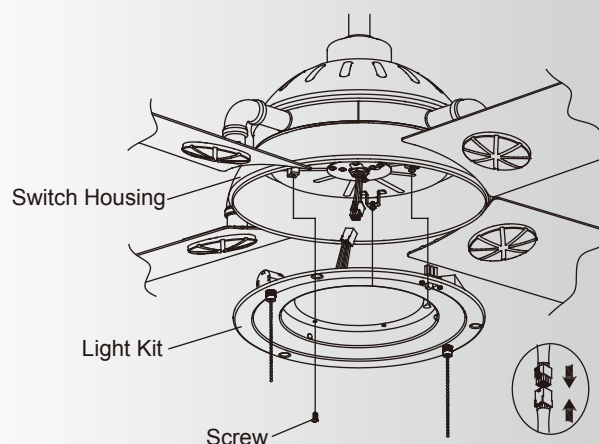

Fig. 19
**Step 1.** Remove 1 of the 3 screws on switch housing and loosen the other 2 screws (do not remove). (Fig. 19)
**Step 2.** The Square plastic wiring connector from the motor body and light kit will only fit together one way. Match up the color on the side of each connector, then push them together until the snap engages. (Fig. 19)
**Step 3.** Align the key holes on the light kit with the 2 screws on the edge of the switch housing. Turn light kit until it locks in place at the narrow end of the key holes. Tighten the 2 screws and reinstall the third screw, making sure all three screws are tight and secure. (Fig. 19)